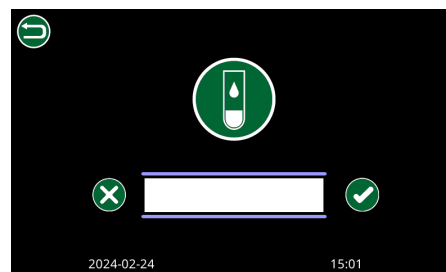

Figure 31. Quality control measurement
- A new screen will appear where the Operator needs to input Sample ID. See Figure 31.